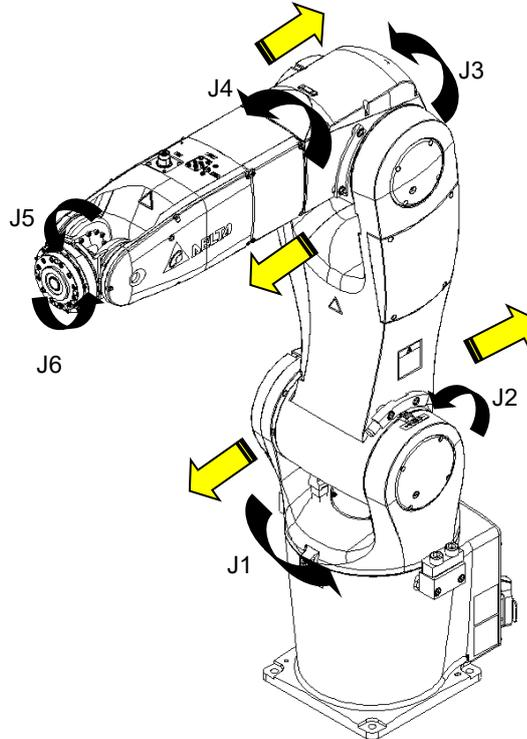

Figure 8.37 Push the robot
2. Press brake release push button and push robot to the front or back as shown in Figure 8.37.